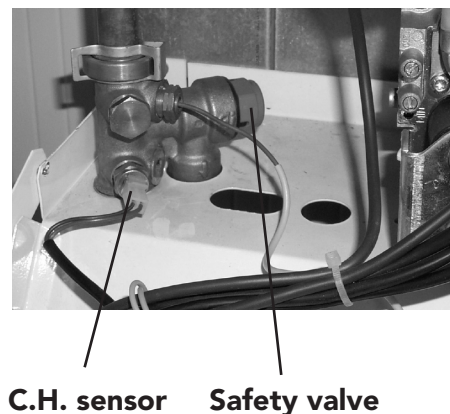

Fig. 32
#### 7.06.1 Central Heating Temperature Sensor (fig. 32)
- Identify the sensor from figure 32
#### 7.06.2 Safety Valve (fig. 32)
- Identify valve from fig. 32
- Identify electrode from fig. 32